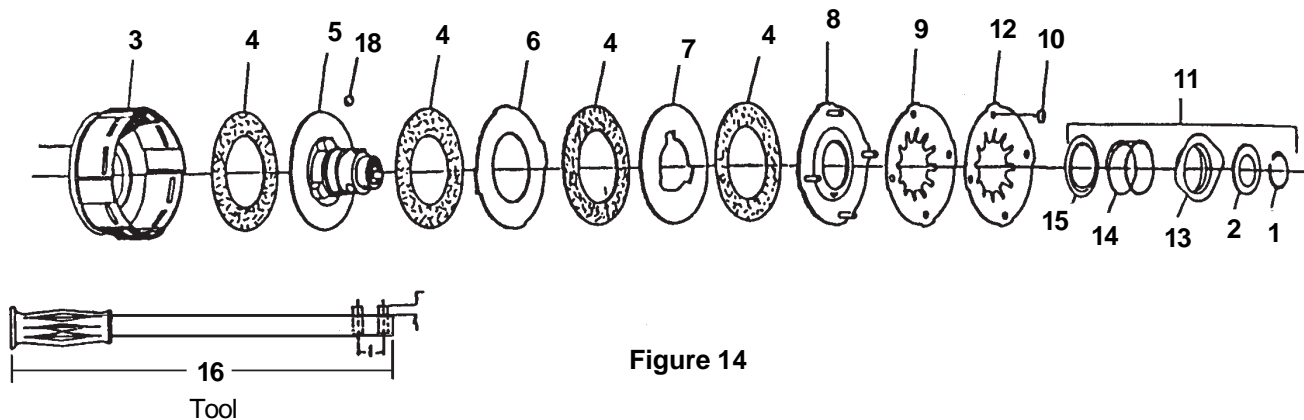

Figure 14
## CLUTCHASSEMBLY (Figure 14)
1. Remove snap ring (1). This allows removal of complete quick coupler (13,14,15,2) and three locking clutch balls (18).
2. Tighten four hex nuts (10) until spring assembly (9 and 12) are loose in main housing (3). **NOTE:** Small amount of lubricant on nut and threaded stud will avoid problem of twisting studs off.
4. Slots have been punched in outer circumference of main housing and at four equally spaced points around housing it has been deformed inward over the belleville springs. This retains the springs in housing when four hex nuts are released. These four deformed areas must be straightened out so that pressure plate assembly can be removed from housing. A special clutch service tool part number 8522 can be purchased and used to straighten deformed areas during disassembly and reform them during assembly. This tool is a bar with two pins located at one end (see Fig 14). To straighten housing place end pin on inside of clutch housing and second pin on outside of clutch housing. Apply pressure on end of bar so that pin in end of bar will straighten housing. **NOTE:** Hex nuts (10) must be tightened to release spring pressure before attempting to straighten main housing. Clutch can now be disassembled.